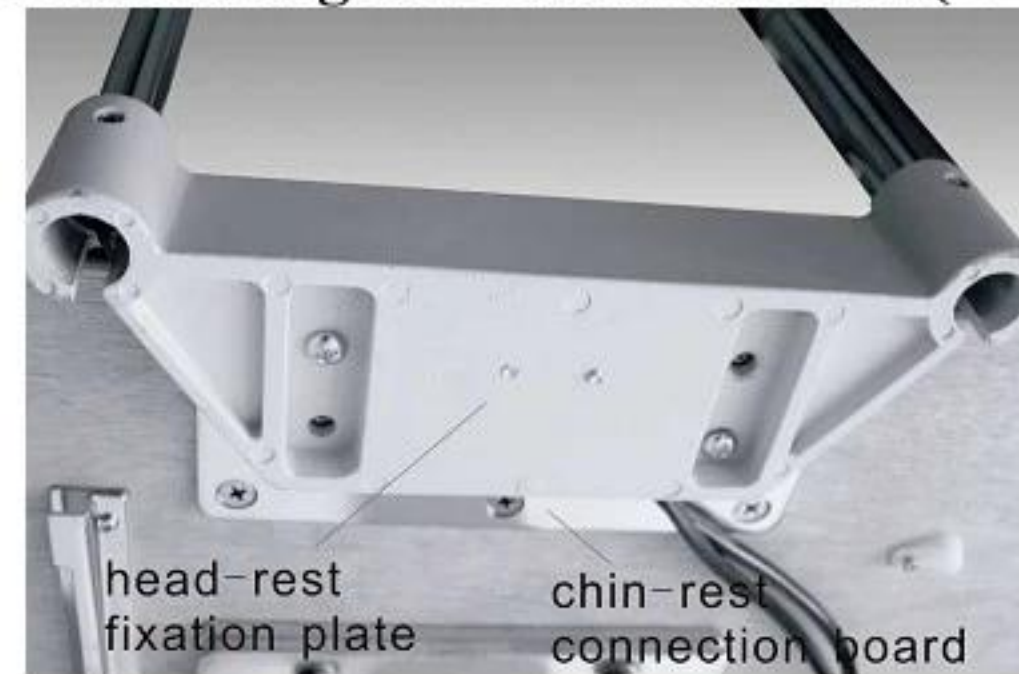

Fig.5
- ✧ Remove the four screws attached to the chin-rest connection board with the screw driver (U).
- ✧ Put two cables in the gap between the headrest fixation plate and the chin-rest connection board (Fig.5).